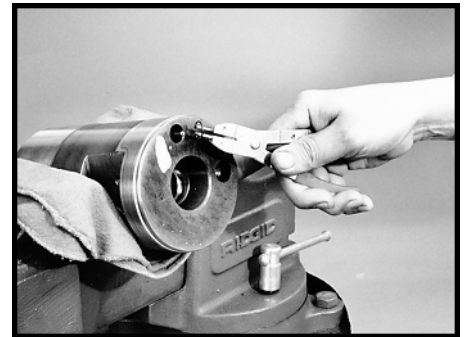

Figure 82
40. It is not usually required to service the poppet assembly. If required, however, position the rack piston (29) carefully in a vise equipped with soft jaws. Then, remove two retaining rings (30), two poppet seats (31), two poppets (32), nylon spacer rod (33), and spring (34). SEE FIGURES 82, 83, 84